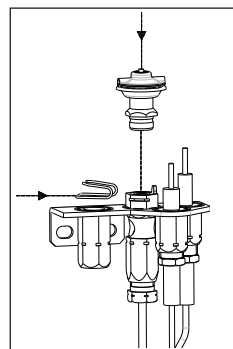

fig. 3
- 7 First replace the pilot hood by aligning the tab on the base of the hood with the slot in the side of the pilot journal, and push the hood down, onto the pilot bracket (fig. 3). The hood must sit squarely on the bracket for proper operation. Then replace the spring by pushing it on his seat (fig.3). Check to insure that the hood is properly seated onto the pilot bracket and that the spring is properly inserted onto his seat.